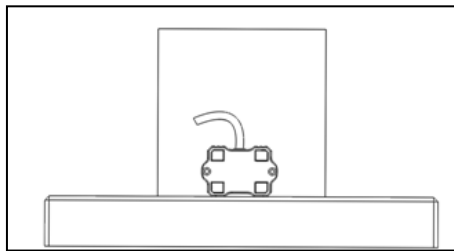

Figure 2. Tilt Sensor Module Position of Calibration Step 2
6. Locate the sensor module as following Figure 2. The sensor is ready for user to perform calibration step 2.